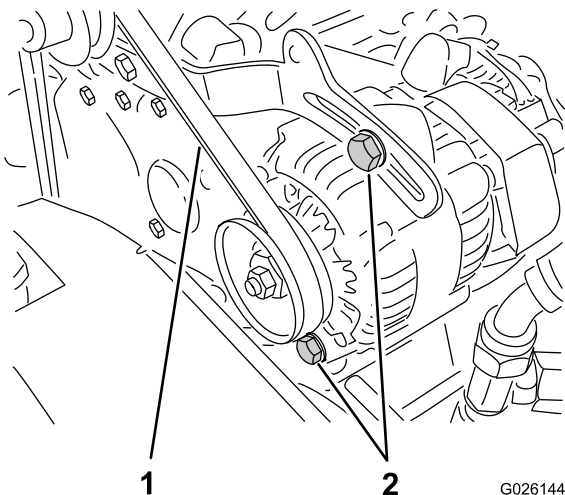

Figure 66
2. Check the tension by pressing the belt at mid span between the crankshaft and alternator pulleys with 10 kg (22 lb) of force (Figure 66).
- A. Loosen the 2 alternator-mounting bolts (Figure 66).
- B. Using a pry bar, rotate the alternator until the proper belt tension is attained, then tighten the mounting bolts (Figure 66).